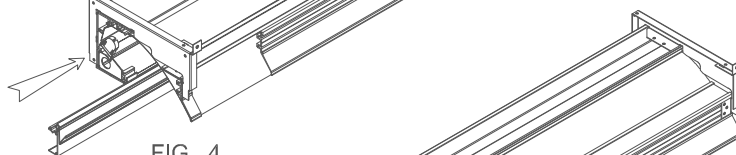

FIG. 4
7. SLIDE-IN SOCKET BRACKET TRAY ASSEMBLY TO BE FLUSH WITH END OF FIXTURE. SEE FIG. 4